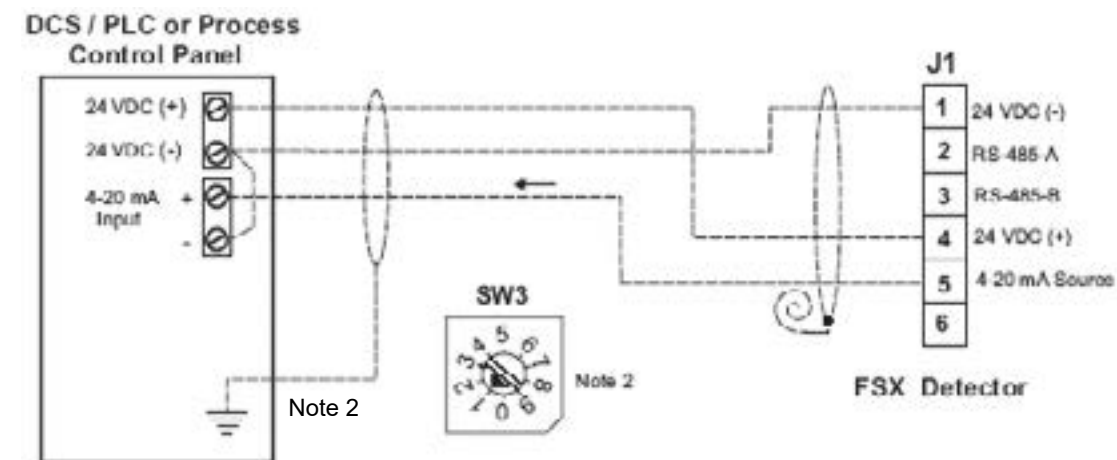
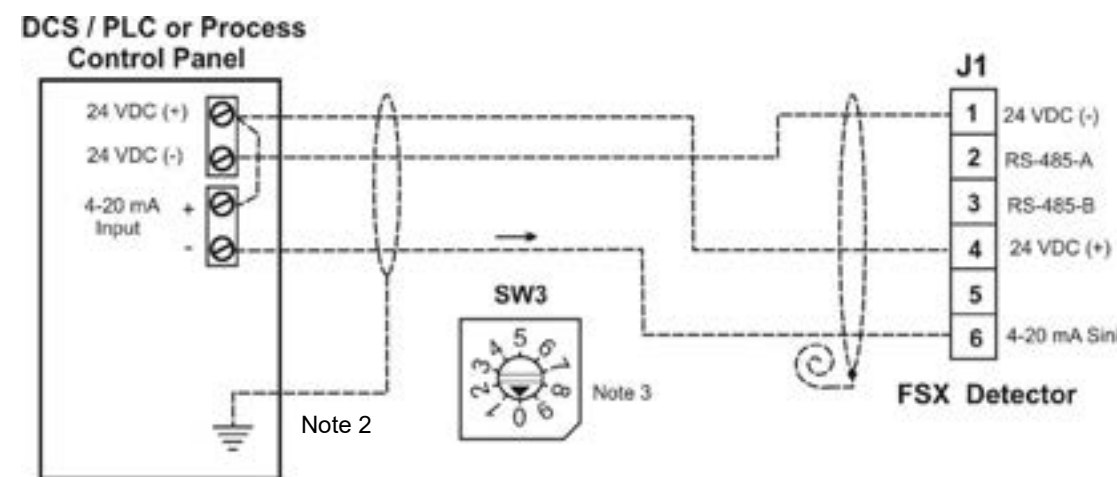

Figure 17. Typical wiring for 4-20 mA (sourcing) analog output
Figure 18. Typical wiring for 4-20 mA (sinking) analog output
3. Set rotary switch SW3 to position 1 for source current wiring (Figure 17) or to position 0 for sink current wiring (Figure 18).